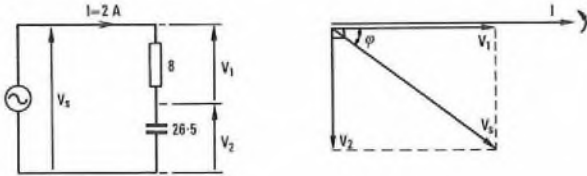

Fig. 5
Q. 7. The generator shown in Fig. 5 supplies a voltage, V_s , at a frequency of 1000 Hz.